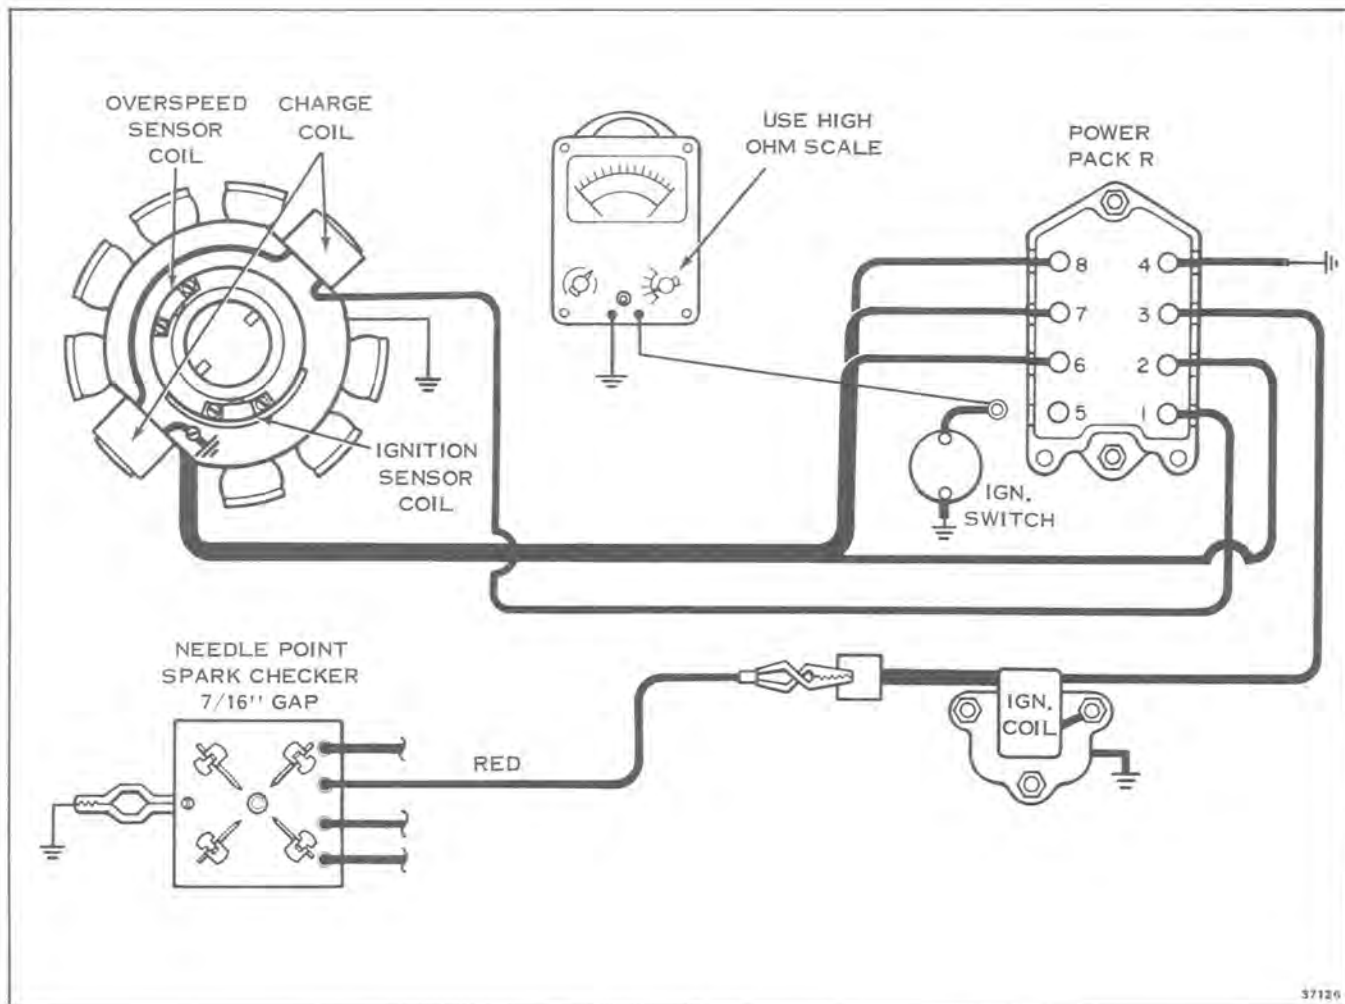

Figure 7-17
- A. Disconnect orange/black lead from Power Pack terminal #5. See Figure 7-17.